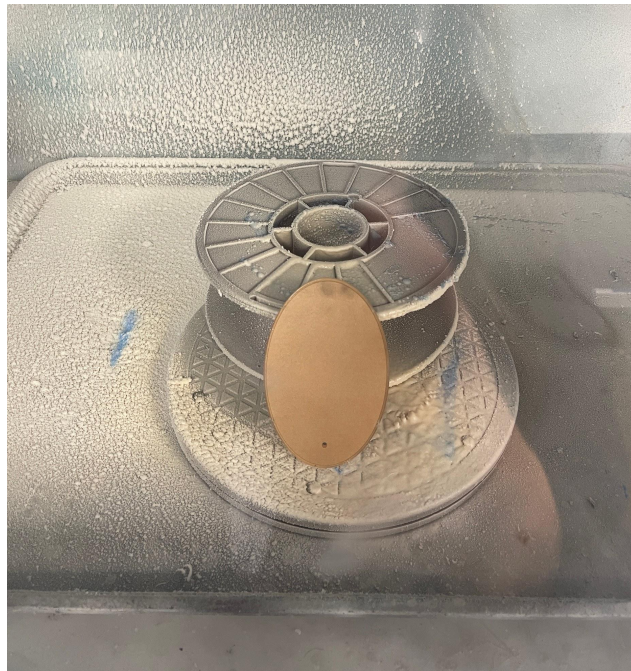

Figure 50: Acrylic window propped at an angle inside of a fume hood
7. Prop the window up at an angle (Fig. 50)